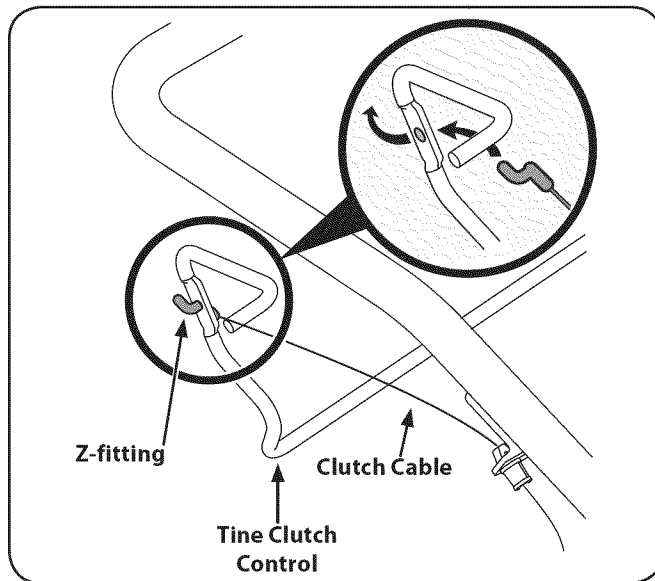

Figure 3-4
5. Insert the Z-fitting on the clutch cable into the hole on the tine clutch control. Hook the "Z" end into the opening from the inside to the outside as shown in Fig. 3-4.